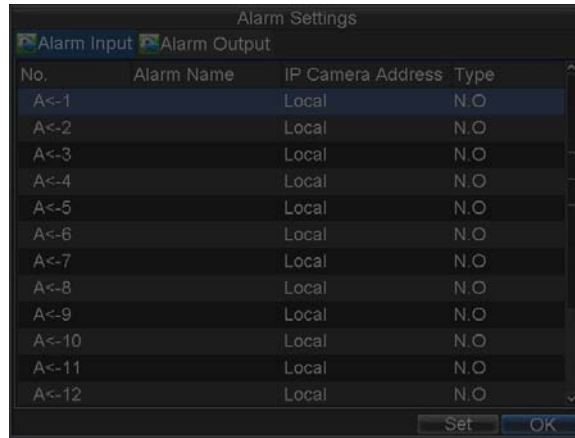

Figure 8. Alarm Management Menu
1. Click **Menu > Settings > Alarm** to enter the Alarm Settings menu, shown in Figure 8.